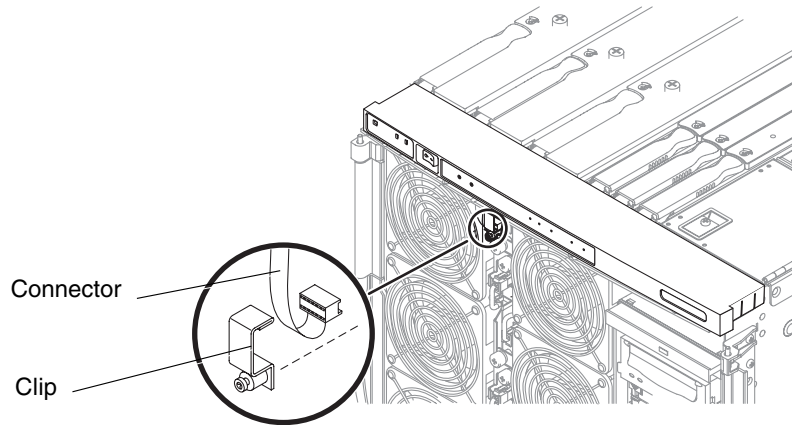

FIGURE 6-8 Replacing the System Indicator Board Connector Retaining Clip
7. Connect the system indicator board connector to the receptacle at the top of the fan tray. Replace the retaining clip (FIGURE 6-8).